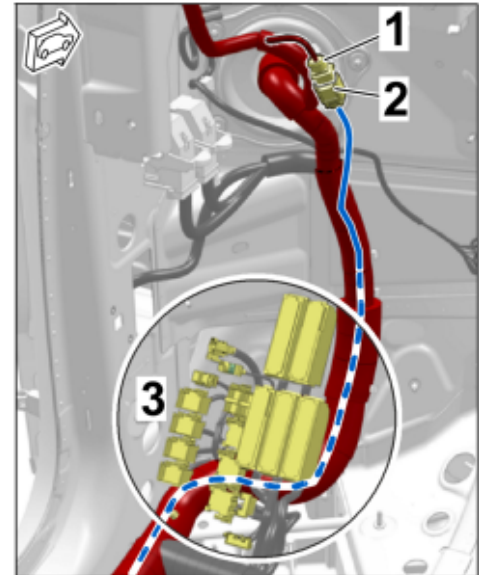

Figure 24
3.2.1 A-pillar area, left (⇒ Figure 24)